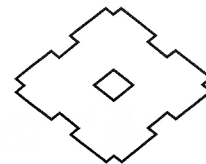

Fig. A-12
3. Remove the cooling fan cover and fan from those Speed Reducers (not motorized) equipped with a cooling fan, and stand the unit on a solid base with its high speed shaft side down. Remove the through bolts for the high speed end shield, ring gear housing, and lift the slow speed side, thus separating the unit into two parts so that the inner mechanism can be removed (Figs. A-12 ~ A17).
5. To lift the slow speed side, attach an eyebolt to the tapped hole on the end of the slow speed shaft and use a hoist or chain block (Fig. A-12).
9. Put the slow speed shaft pins into the rollers (Fig. A-12). The above instructions are for **eccentric bearings with retainer**. Following are the instructions suggested for **roller bearings without retainer**.